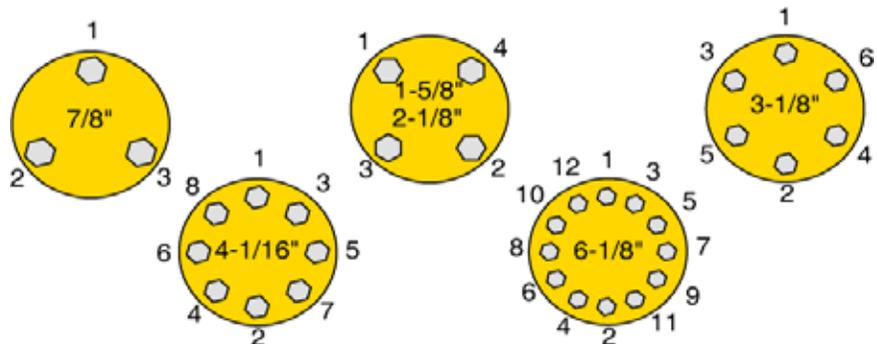

Figure 5. Flange Bolt Tightening Sequences
- f. After the hybrids & radiators have been connected to each other, tighten the mounting bolts securing them to the panel. Figure 5 shows the flange bolt tightening sequence for each coax size.
- c. First snug the flange bolts in the sequence shown in Figure 5 on page 8, then tighten them to the torque specification shown in Table 1 on page 9.